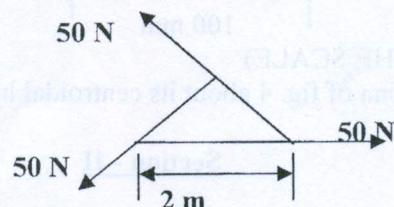

Fig 2 (NOT TO THE SCALE)
- [B] Determine the Resultant Force in terms of Magnitude, Direction and Position for the following equilateral triangular force system (fig 2).